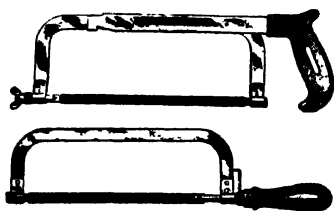

Fig. 4-11. Hacksaws. Top, adjustable; bottom, solid.
**Hacksaws.** Hacksaws are used to saw metal. There are two parts to a hacksaw—the frame and the blade. Common hand hacksaws have either adjustable or solid frames. See Fig. 4-11 for examples of both; top frame is adjustable, bottom solid.